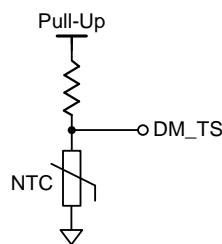

Figure 10. TS Function Connection
The device integrates a temperature sensing (TS) function to diagnose the external temperature using an NTC thermistor. The voltage on the NTC thermistor varies with different temperatures. Figure 10 shows the DM_TS pin connection for the TS function. The device diagnoses TS_OTP from the DM_TS pin ADC value if DM_TS_CFG(0x005F[6]) is set to 1. If the external sensing voltage is lower than the TS_OTP threshold, the device will stop charging and reset CHG_EN bit to disable. The temperature information is derived from the DM_TS pin ADC value. To use this function, enabling DM ADC conversion is necessary.